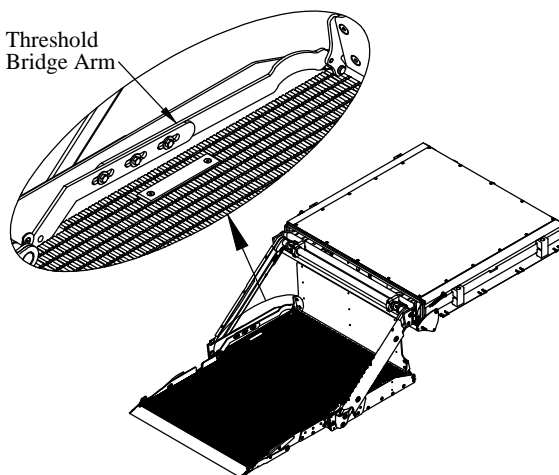

Figure 8: Threshold bridge adjustment.
5. **Loosen** the three bolts fixing the length of the threshold bridge arm (Figure 8).